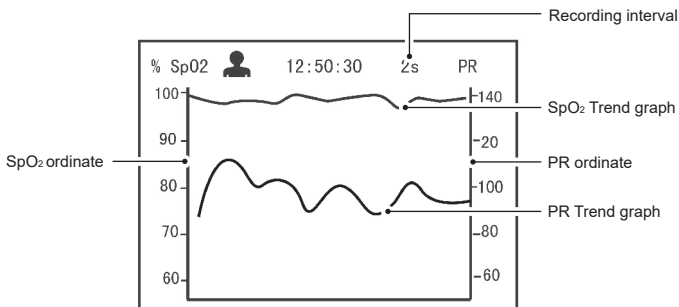
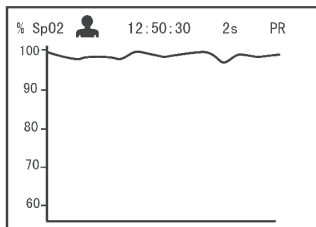
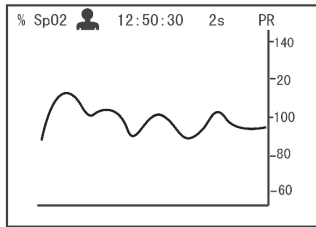

Figure 4-9A Trend Graph Display Screen
Figure 4-9B Trend Graph Display Screen
Figure 4-9C Trend Graph Display Screen
Choose one record in the record list, then press “” (mode/OK) key, the display screen will display trend graph, as shown in Figure 4-9A.
- Short time press “” mode/OK key to shift the trend graph screens (as shown in Figure 4-9A, Figure 4-9B and Figure 4-9C)